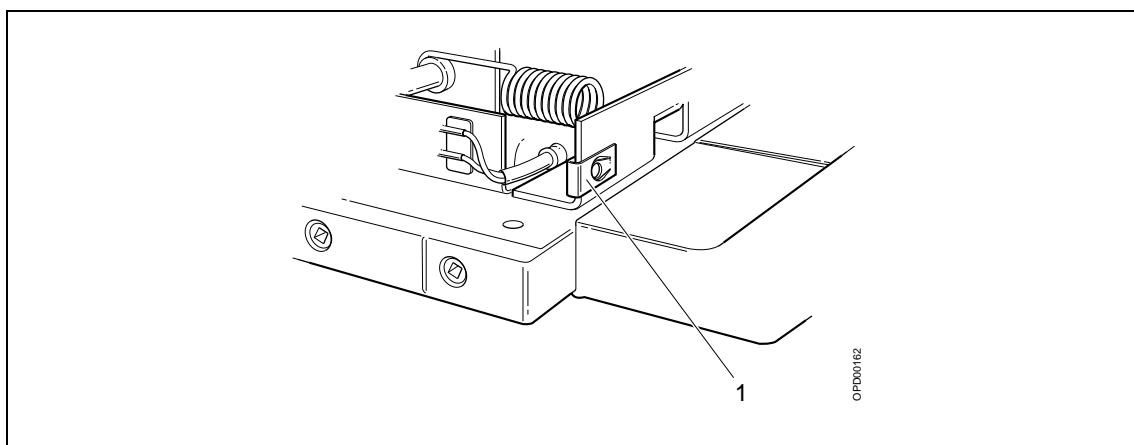

Fig. 6 Installation of thread
The biopsy controller is the central unit for the cable connections of OPDIMA. The cables are connected to the biopsy controller according to the figure 6 on page 2-6, see wiring diagram doc No: SPB7-230.051.09.03.02.
1. Install a new thread (1/Fig. 6).